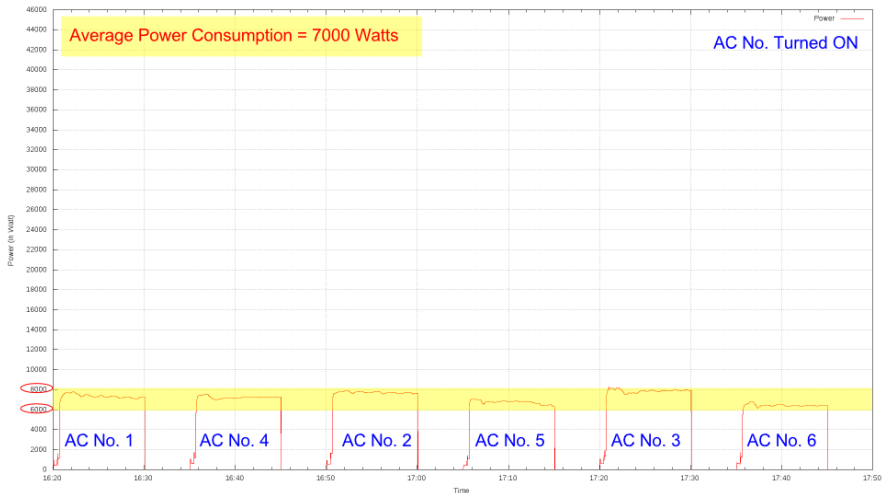

Figure 4 : Power Consumption of individual air conditioning unit
- **Inferred from Figure 4:** Power consumption of a single air conditioning unit might vary from 8000 watts to 6000 watts at an instant